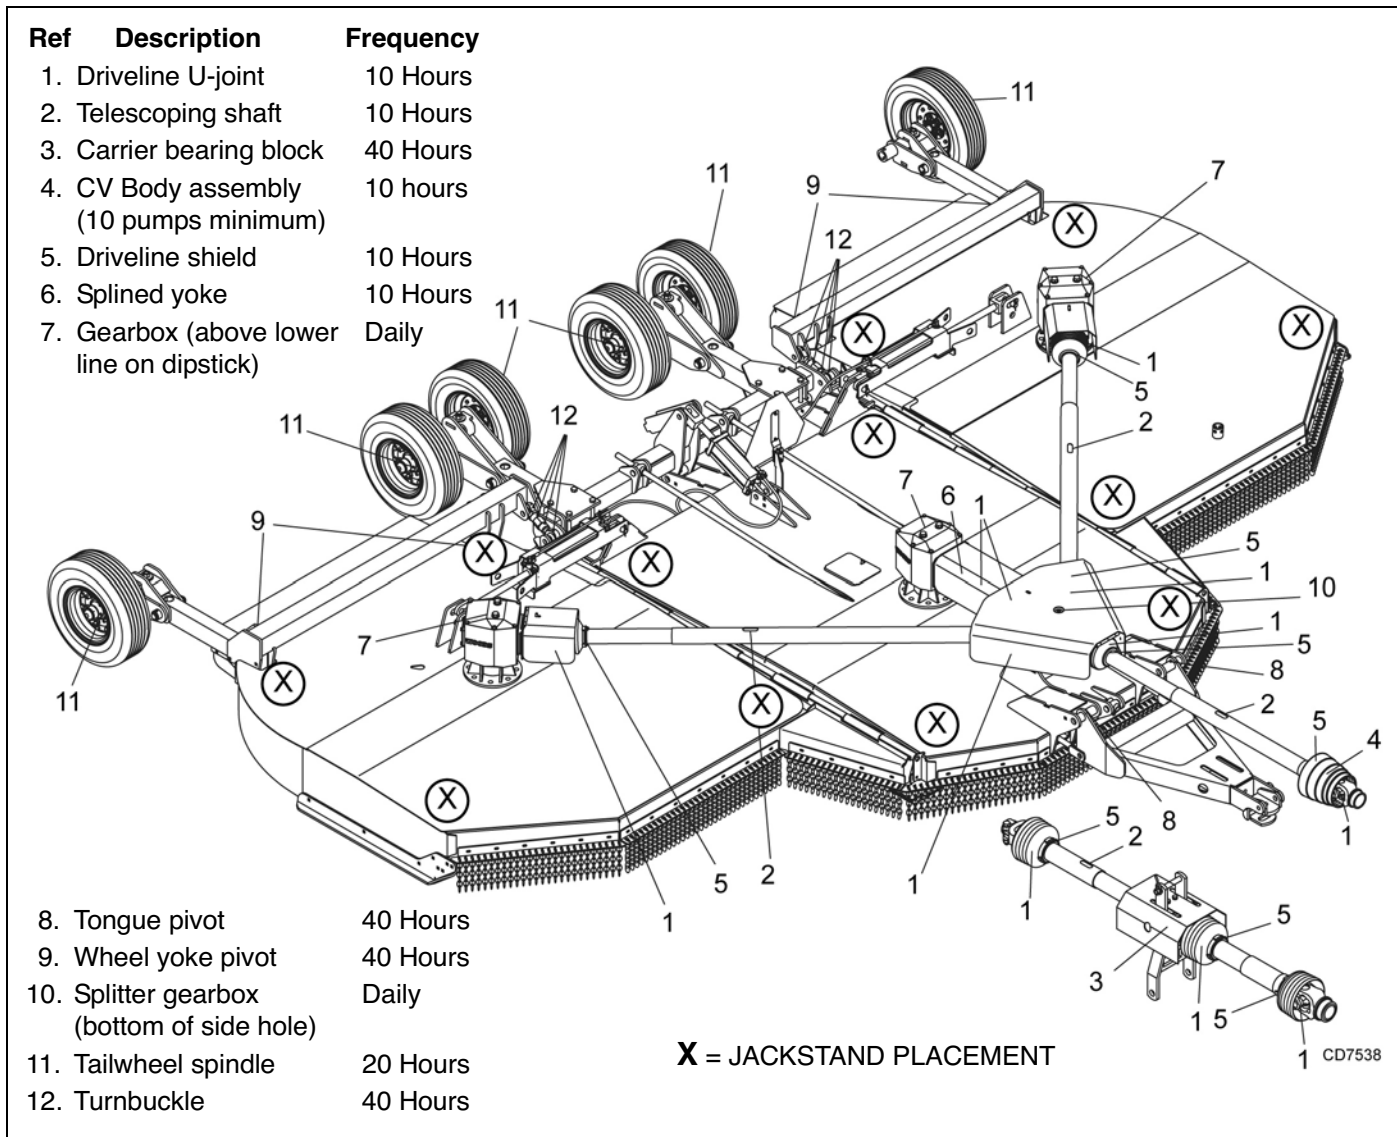

Figure 5. Jackstand Placement and Lubrication Points
1. Jackstands with a load rating of 1000 lbs. or more are the only approved blocking device for this cutter. Install jackstands (shown by Xs in Figure 5) under the cutter before working underneath unit.
See Figure 5 for lubrication points and frequency or lubrication based on normal operating conditions. Severe or unusual conditions may require more frequent lubrication.
2. Raise cutter and block securely (see Figure 5).
3. Align crossbar (8) with blade access hole in the cutter frame. Remove cap screw (50), blade pin